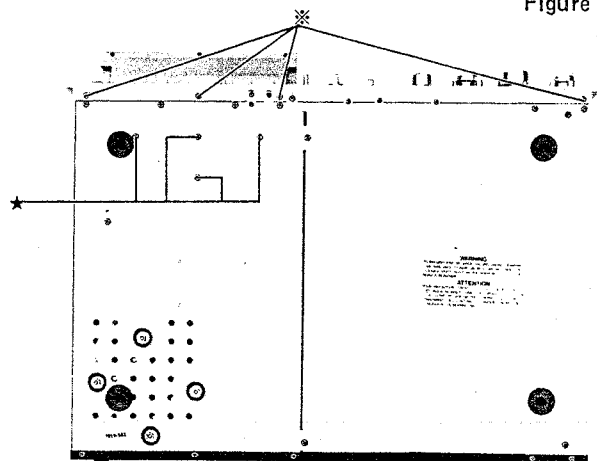

Figure 6
- (1) Remove four screws marked "★" as shown in Figure 6.
- (2) Disconnect all wires from the cassetted deck.
- (3) The cassette deck with deck P.C. Board and auto shut off P.C. Board can be completely removed from the chassis.